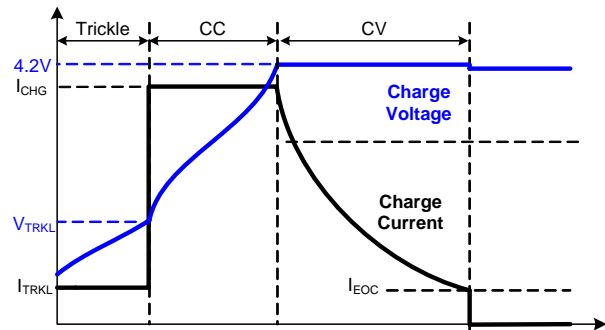

Figure 17. Charge Profile
The MC34674 follows the standard charging profile with trickle, constant-current (CC) and constant-voltage (CV) charge modes, as shown in Figure 17. The trickle-mode current  $I_{TRKL}$  is pre-set to 10% of the CC-mode current  $I_{CHG}$  when the battery voltage is lower than the trickle-mode threshold  $V_{TRKL}$ . In the CC-mode, the output voltage increases until it reaches 4.2 V. Then the charger enters the CV-mode with the output voltage regulated at 4.2 V. The end-of-charge (EOC) current threshold  $I_{EOC}$ , which is utilized to indicate the termination of a charge cycle, is preset to 10% of the CC-mode current.
The fast charge contains two modes, the constant-current (CC)-mode and the constant-voltage (CV)-mode. As shown in Figure 17, the charge current is regulated at a constant value in the CC-mode and the charger output voltage is regulated at a constant 4.2 V in the CV-mode. The charge current can be reduced by the die temperature regulation loop when the die temperature reached 110°C. The CC-mode current is set internally by Freescale. Available values are given in Table 6. Consult Freescale for values that are not listed in Table 1.